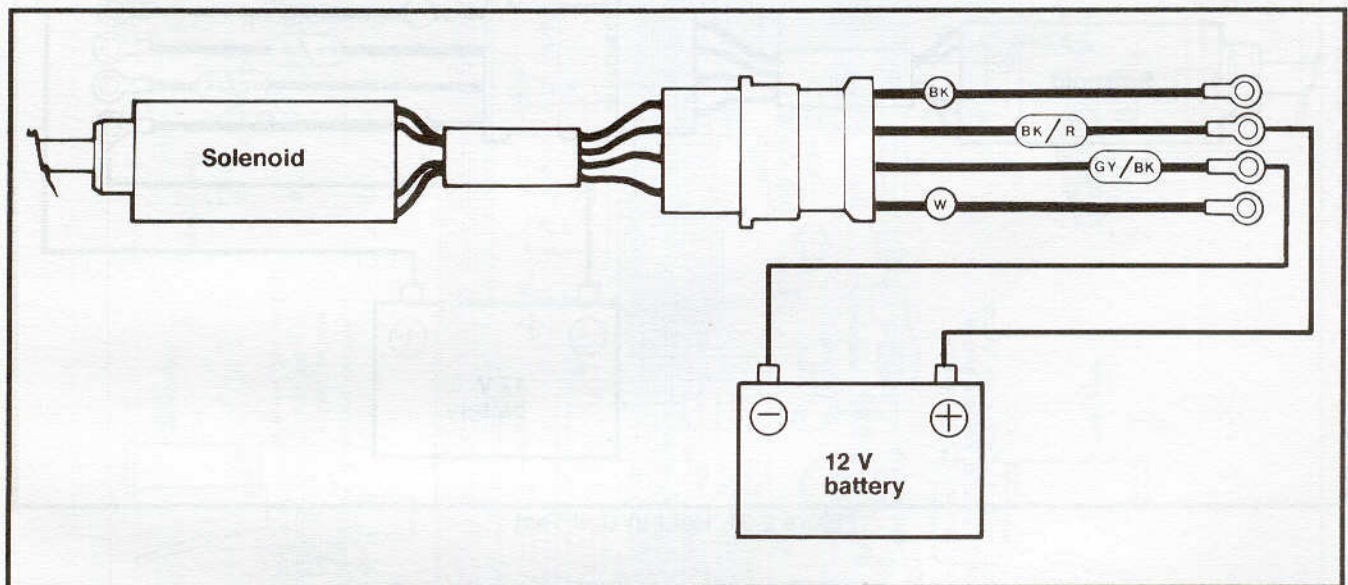

Figure 8-30. Pull-in Coil Test
1. See figure 8-30. Connect a 12V battery to the solenoid test harness as shown. The butterfly valve must open.